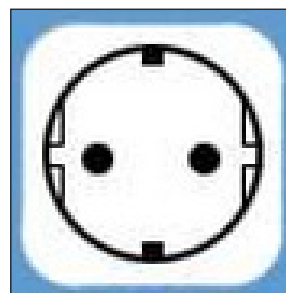

fig. 20 - Schuko socket
- a Schuko wall socket with ground and separate protection is required (fig. 20);